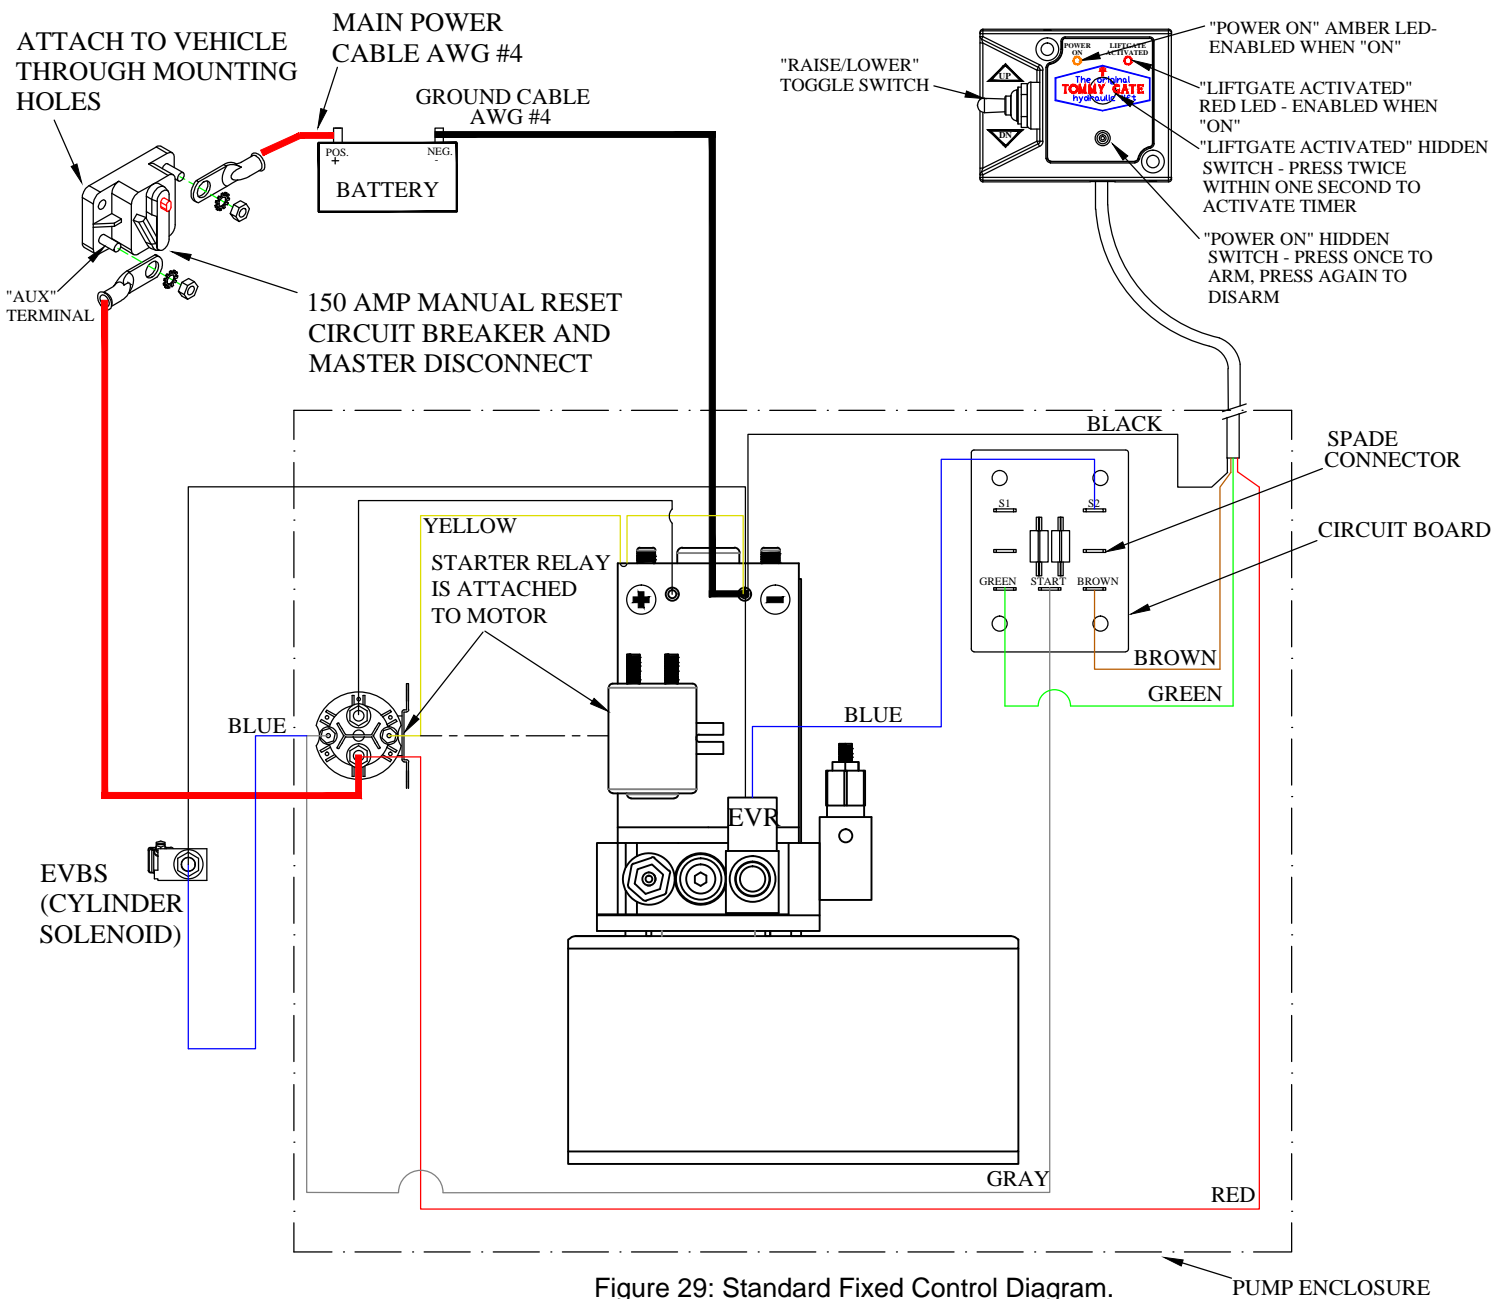
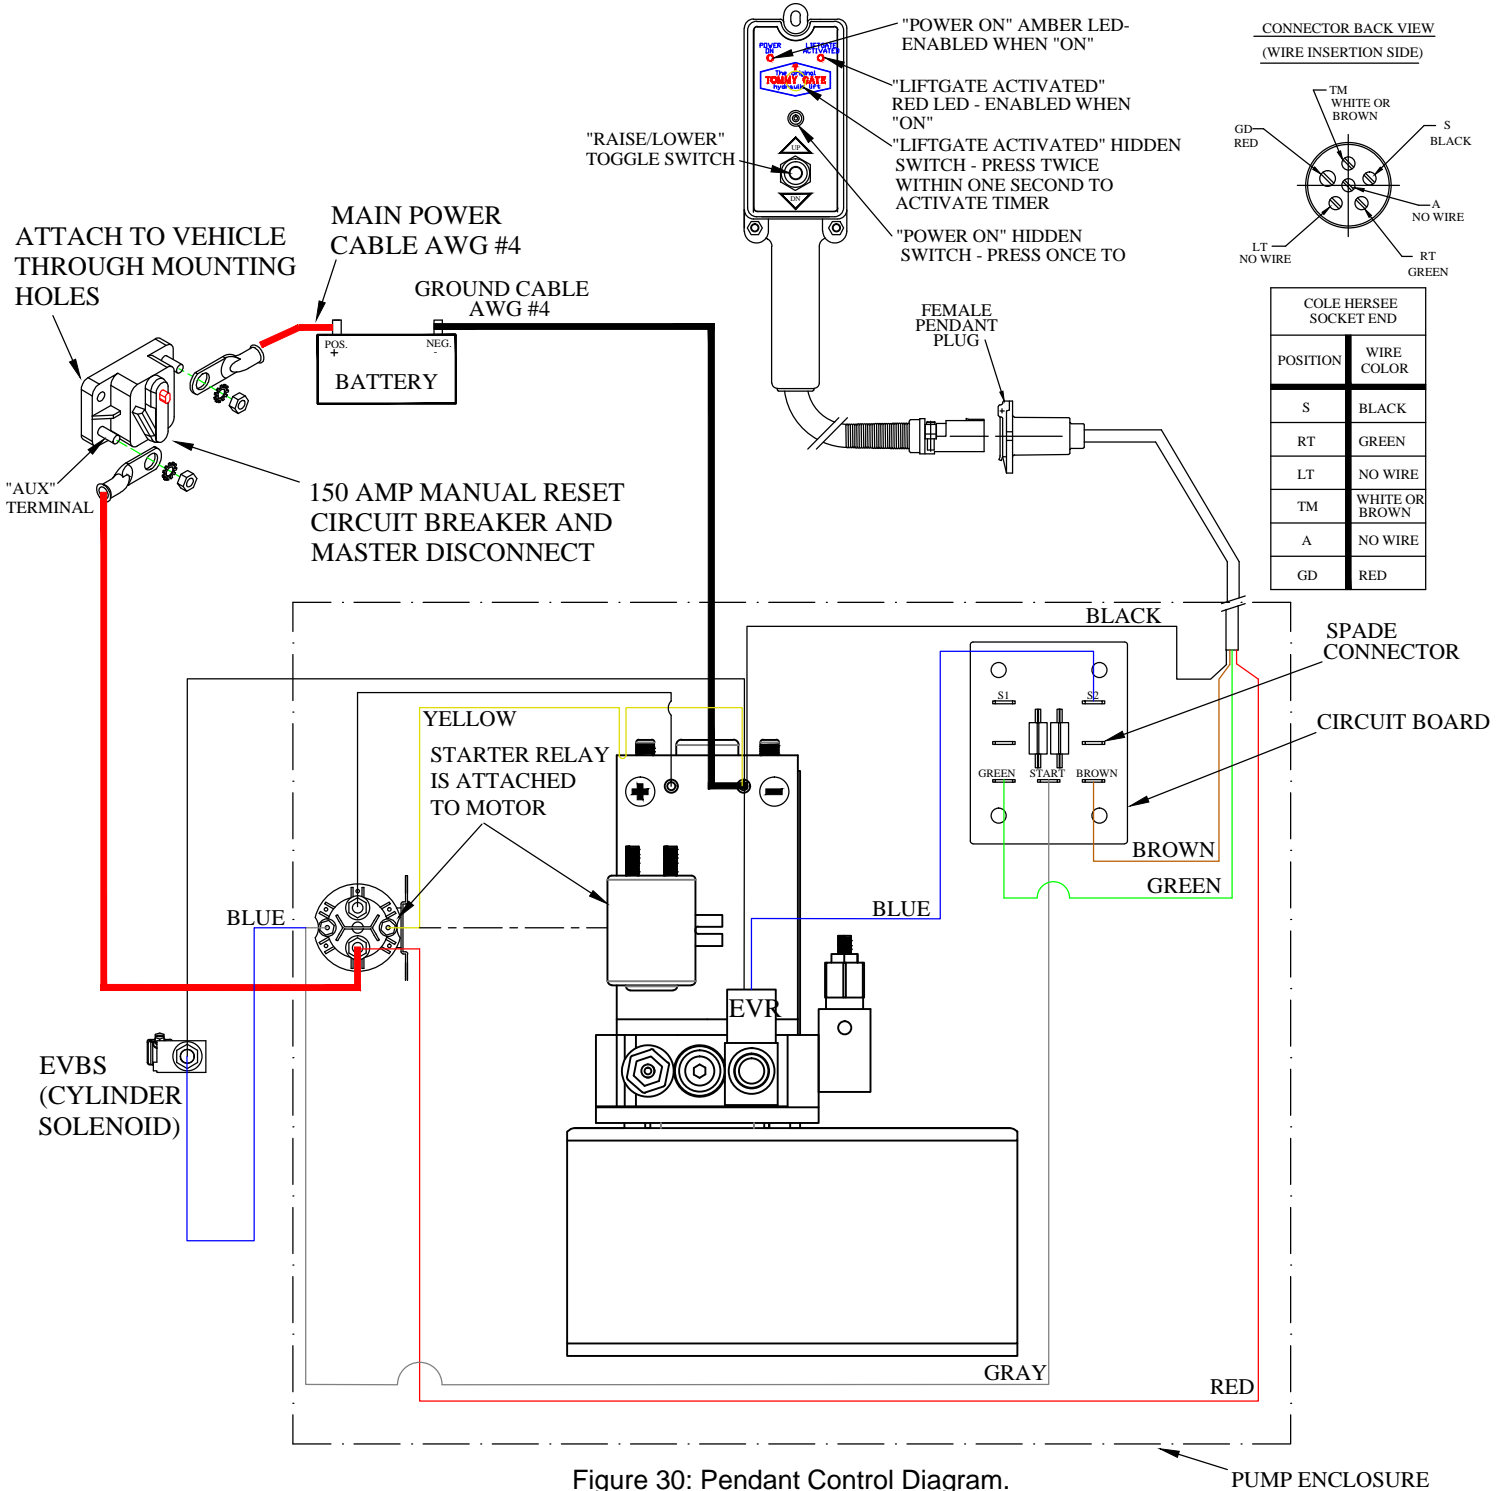

Figure 29: Standard Fixed Control Diagram.
Figure 30: Pendant Control Diagram.
14. **Connect** the circuit breaker and battery as outlined in the *Tommy Gate Recommended Electrical Wiring Guidelines* and wiring diagram (Figure 29 or Figure 30).